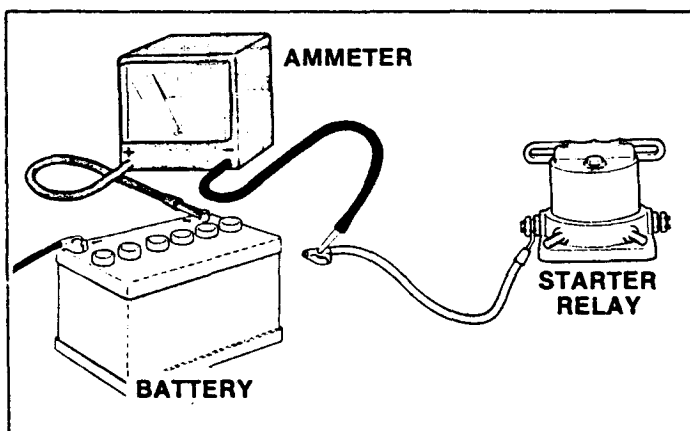

FIGURE 104. BATTERY CURRENT DRAIN TESTS
Sometimes a high-resistance short to ground can drain the battery without blowing a fuse. This type of short can be difficult to locate. To verify that there is a high-resistance short to ground, refer to Figure 104 and proceed as follows:
1. Leave the ammeter connected as shown in Figure 104.
1. Leave the ammeter positive cable connected to the battery positive post as shown in Figure 104.